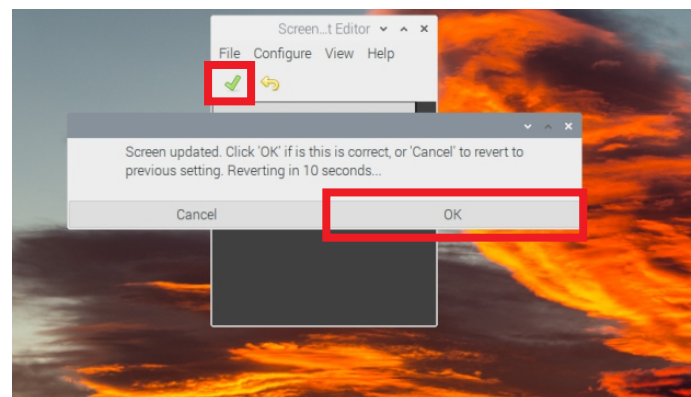

Figure 8: Save Display settings
2. Then green color tick and click 'OK' on appeared window according to Figure 8.